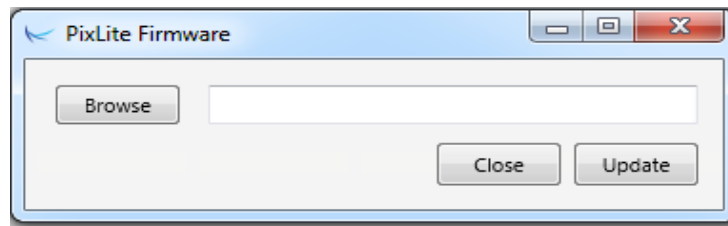

Figure 9
2. A configuration window will appear. Click on the “Misc” tab and then locate the “Upgrade Firmware” button and click on it. A “firmware update” window will appear (as shown in Figure 9).
4. Using the Assistant, click search in the main window and you should see the controller appear with “bootloader” in the firmware column. Double clicking on it will bring up the file browse window as shown in Figure 9.